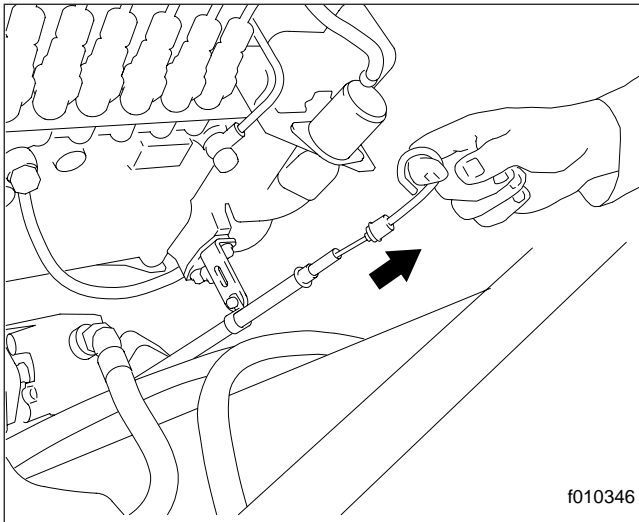

Fig. 8.4, Check the Engine Oil Level
14. Check the engine oil level. See Fig. 8.4.